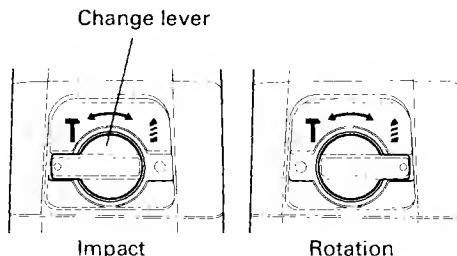

Fig. 7
9. IMPACT to ROTATION changeover (Fig. 7)
The change lever may not rotate smoothly when changing from hammer drill mode to drill mode (Fig. 7).